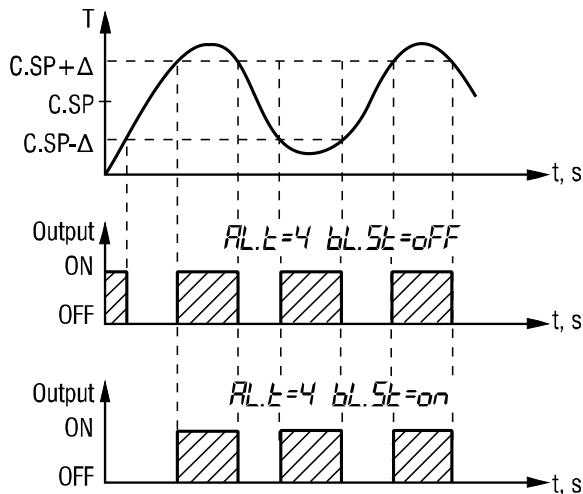

Fig. 6.9 Option "Ignore alarm on start"
1. If a logic unit is used in "Alarm Outside Limits" mode, it can be useful to block the first alarm, because the controlled value must not be inside the valid range when starting control. To use the option set the parameter **bl.St** (PL-2 group) to ON. Output time diagrams for this option are shown in Fig. 6.9.